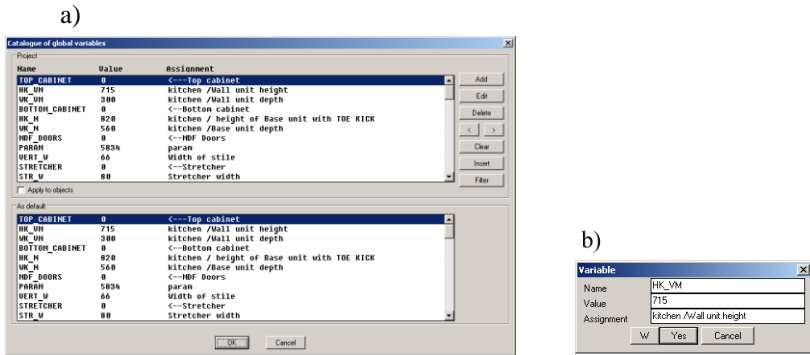
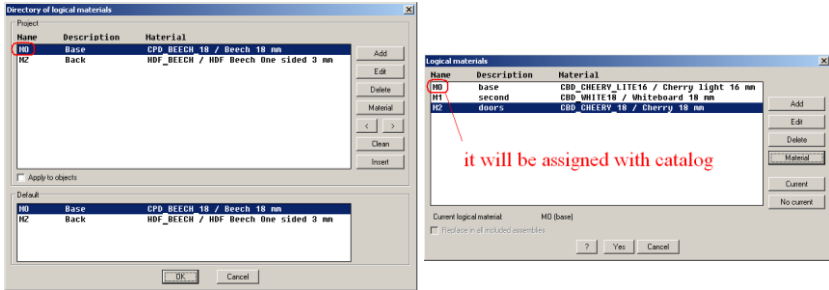

Fig. 6.26. Setting of project global variables
Fig. 6.28 Catalog of logical material of the current project (on the left) and logical materials of the typical model
To edit the catalog of project global variables, use **Service >> Settings >> Catalogue of global variables >> Current project**, see fig. 6.26. This window consists of two parts. These are global variables of the current project (it is the upper part) and global variables by default.
- that logical materials of the model will be assigned with the logical materials of current project catalog, see fig. 6.28.
To edit project catalog of logical materials, execute **Service >> Catalogue of logical materials >> Current project**, see fig. 6.28. This window consists of two parts. These are logical materials of the current project (it is the upper part) and logical materials by default. The window controls correspond to controls considered for fig. 6.26, page 288.